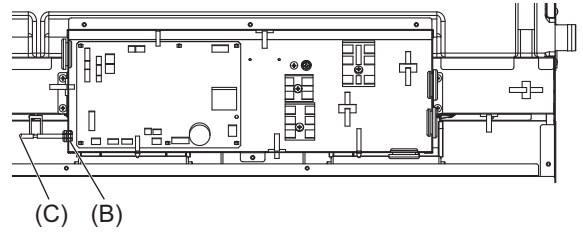

Fig.9
- (1) Pull out the thermistor holder (B) and thermistor (C) on the control box in Fig.9.